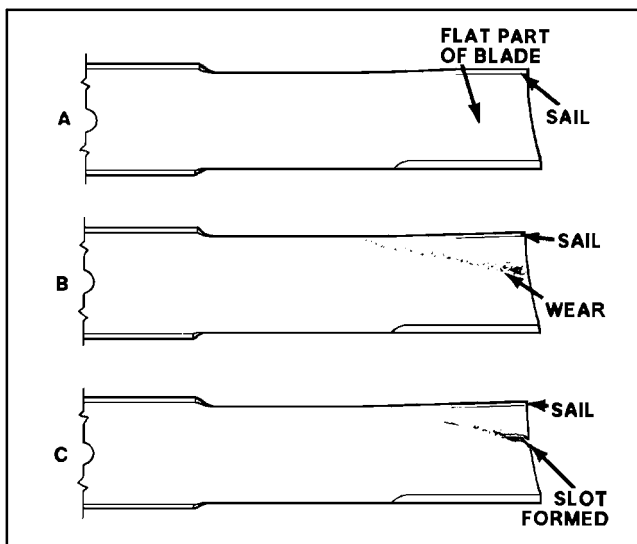

Figure 11
2. Examine cutting ends of the blade carefully, especially where the flat and curved (sail) parts of the blade meet (Fig. 11). Since sand and abrasive material can wear away the metal that connects the flat part and sail of the blade, check the blade before using the machine. If wear is noticed, replace the blade.